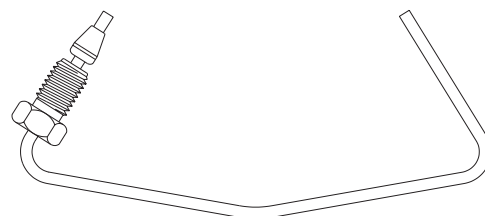

Figure 1: Nut and ferrule on loop
1. "Open" the loop by bending it in the middle until it looks like the loop in **Figure 1**.
2. Slide a nut and ferrule onto one end of the tubing as shown in **Figure 1**.